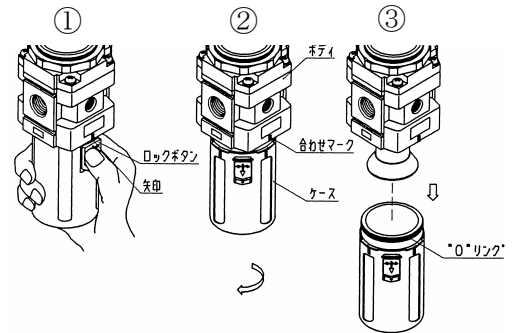

Fig.3
1. Detaching the case (See Fig.3)